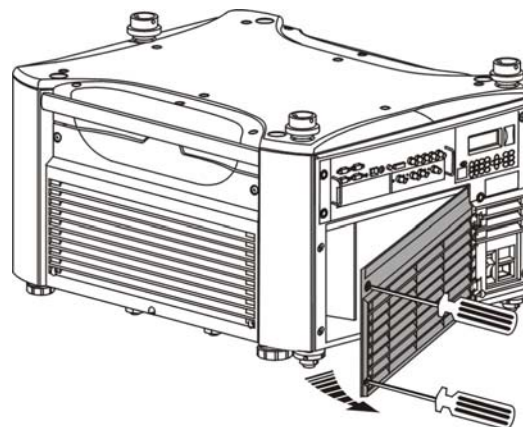

Figure 4.2. Open Lamp Door
Using a #2 Phillips screwdriver, loosen the ¼-turn lock screws (2) securing the lamp door, which is located at the rear of the projector below the input panel. See Figure 4.2.